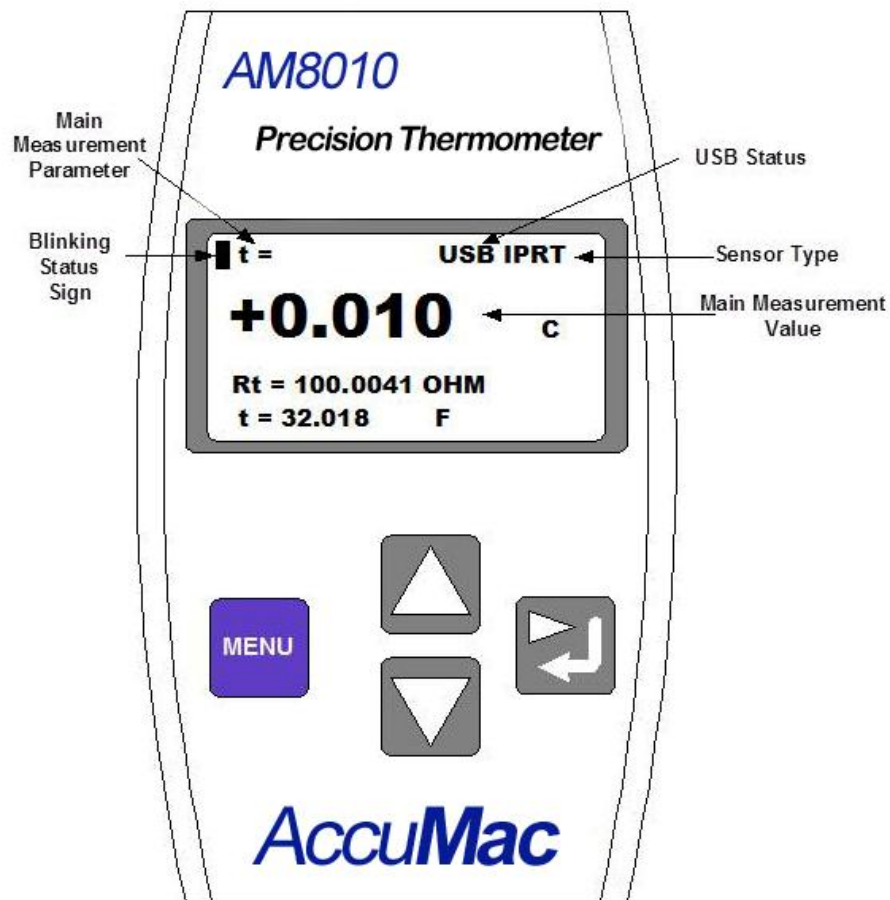

Figure 3-1: AM8010 front panel.
Figure 3-1 shows the front panel of AM8010 and its parameter display. There are four function keys that are defined as followings:
The temperature measurement results are displayed on the LCD screen. There are four lines of information as shown in Figure 3-1. The main information is temperature in Celsius (C), Fahrenheit (F) and sensor resistance (OHM). The other information includes sensor type, USB connection status, battery low status and no sensor indications.
As shown Figure 3-1, the top line is status information line. The information includes: